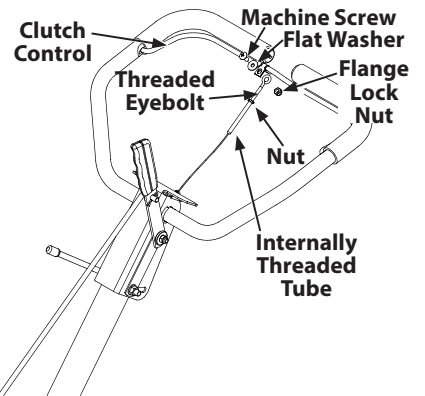

Figure 8
4. Remove the machine screw, flange lock nut and washer from the clutch control. See Figure 8.
6. Thread the eyebolt and nut removed earlier into the internally threaded tube at the end of the cable. Thread engagement should be about 3/4". Tighten the nut against the tube at the end of the cable. See Figure 8.